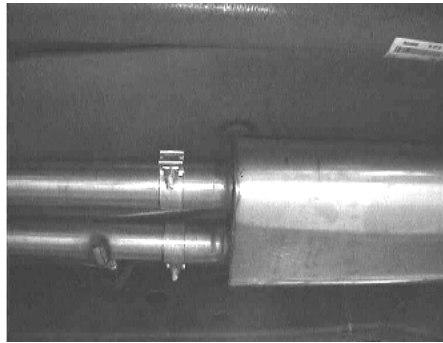

Figure 4
3. Place a clamp over each expanded end of the muffler assembly and place into position as shown in figure 4. DO NOT tighten the clamps.